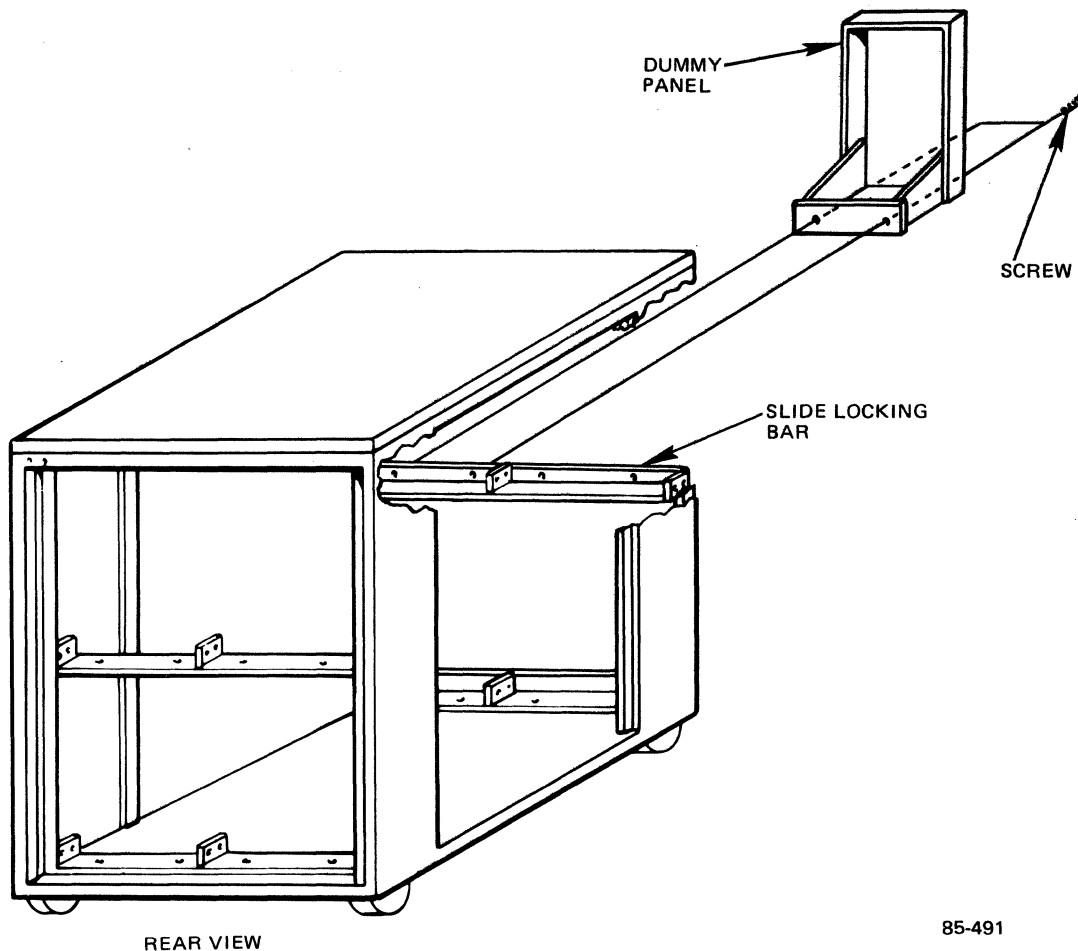

Figure 2-14. Installing the Dummy Panel
18. Install a dummy panel over any unused disk drive positions with the two screws provided as shown in Figure 2-14.
6. Remove the appropriate dummy panel from the cabinet by removing the two screws (see Figure 2-14).